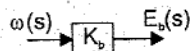

Fig 4.
In equation (9), $\omega(s)$ is the input and $E_b(s)$ is the output. The block diagram for this equation is shown in fig 4.